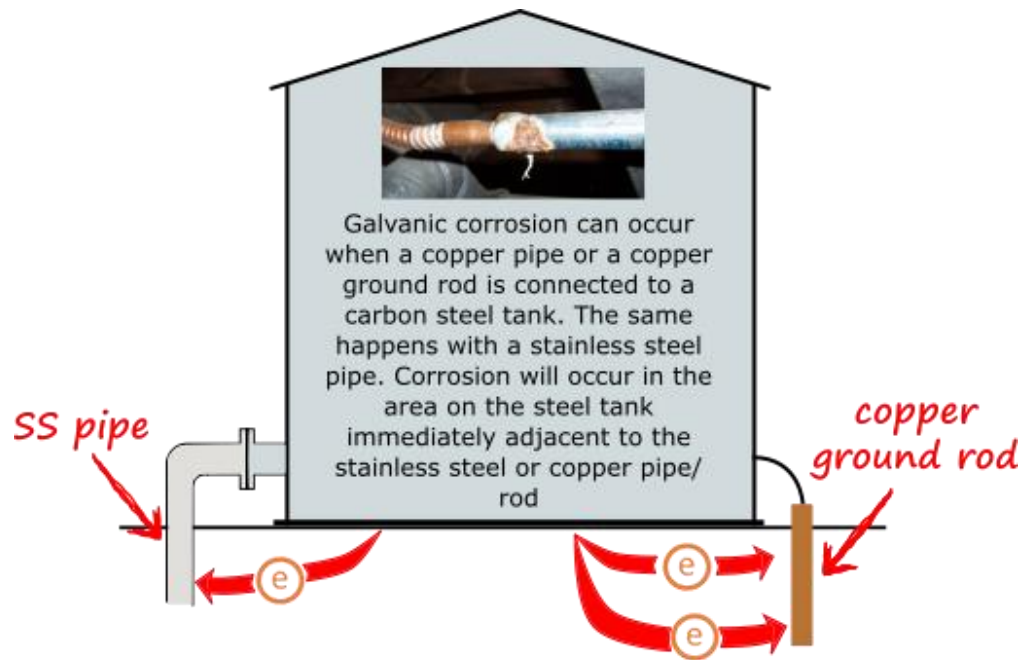

FIGURE 54 GALVANIC CORROSION
**Galvanic corrosion** occurs when two metals with different compositions (thus, different electrolytic potentials) are connected in an electrolyte (usually soil). Current will flow from the more active metal (anode) to the less active metal (cathode) with accelerated attack at the anodic metal. For example, galvanic corrosion can occur when a bronze check valve is joined to carbon steel piping or where stainless steel, copper pipe or a copper ground rod is connected to a carbon steel tank (Figure 54). In the pipe/steel tank example, the stainless steel or copper pipe becomes the cathode and the steel tank is the anode. Since current takes the path of least resistance, the most severe corrosion attack will occur in the area on the steel tank immediately adjacent to the stainless steel or copper pipe as shown in Figure 4. The extent of such a problem is dependent on several factors.